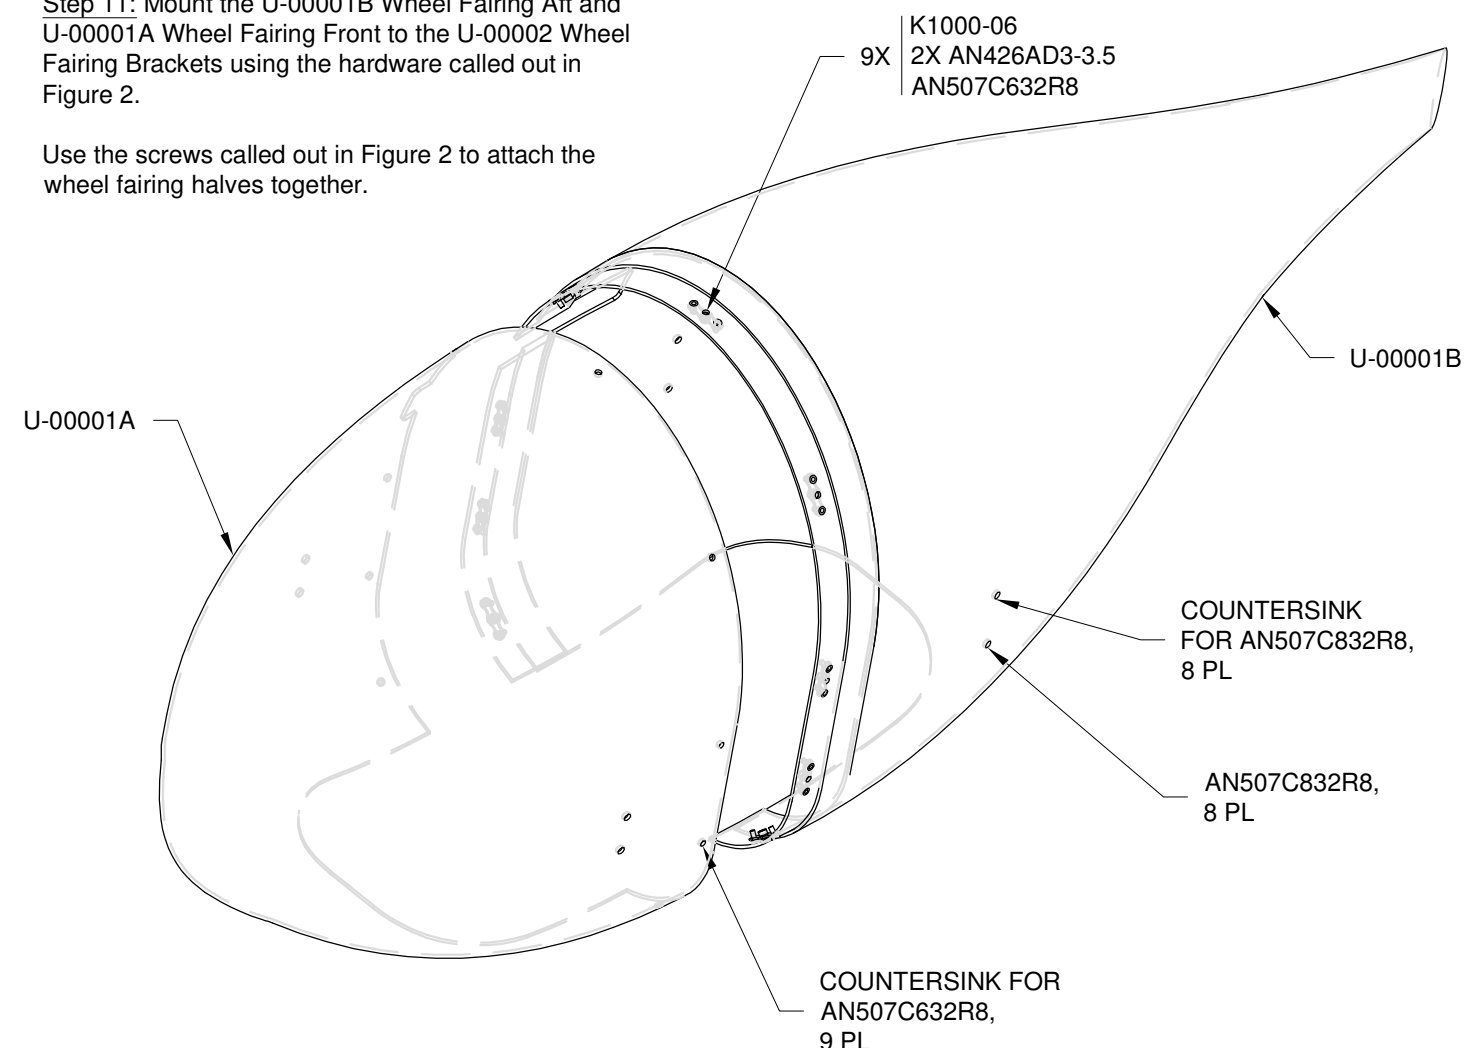

FIGURE 2: ATTACH WHEEL FAIRINGS TO EACH OTHER
Countersink the #27 holes in the wheel fairing front as called out in Figure 2.
Step 11: Mount the U-00001B Wheel Fairing Aft and U-00001A Wheel Fairing Front to the U-00002 Wheel Fairing Brackets using the hardware called out in Figure 2.
Use the screws called out in Figure 2 to attach the wheel fairing halves together.